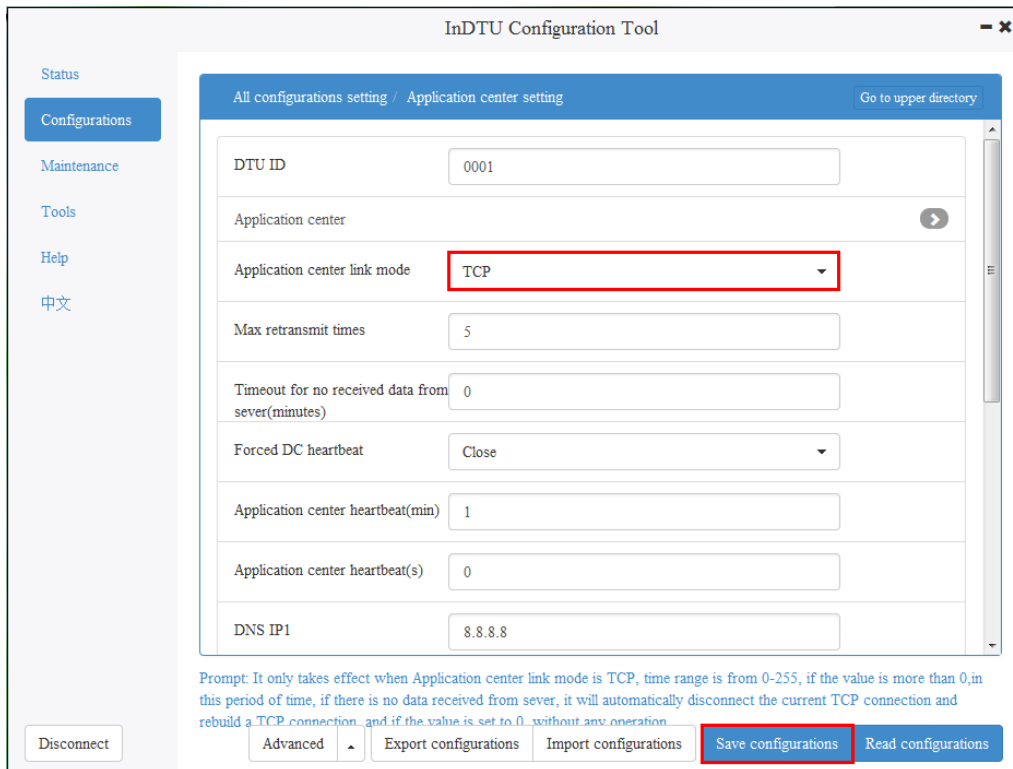

Figure 4-9-2 Dual-SIM switching setting 2
Step 2: Choose **Configurations > All Configurations Setting > Application center setting** and set **Application center link mode** to **TCP**, because **Switch card without connecting the center** is available only when **Application center link mode** is **TCP**, as shown in Figure 4-9-2.